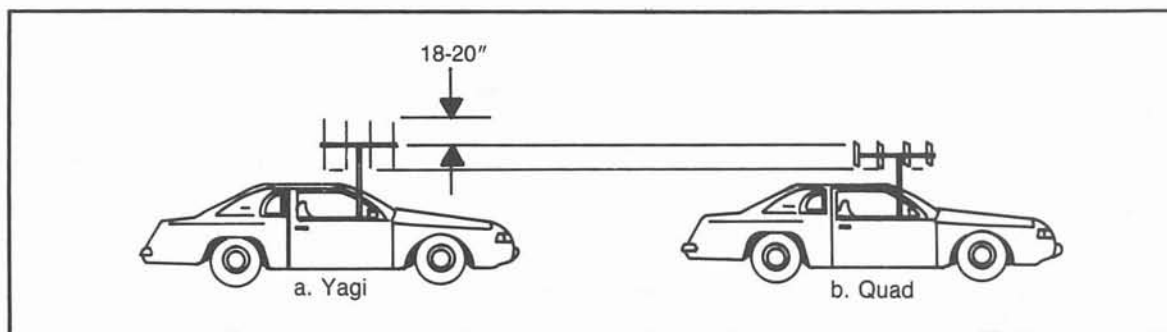

Fig. 4-5. A full sized 2 meter quad is much shorter than a similar Yagi.
- ☐ For vertical polarization, it is only half as tall as a yagi (see Fig. 4-5). Again, this helps to keep it away from antenna-eating trees.